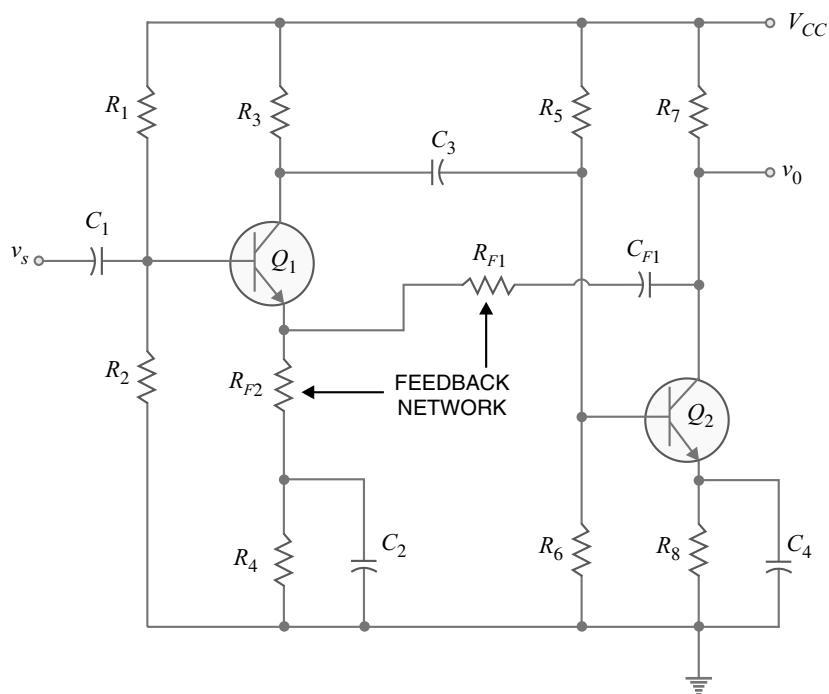

Fig. 11.18
Fig. 11.18 shows two-stage CE amplifier with negative voltage feedback. The feedback path is from the collector of transistor  $Q_2$  to the emitter circuit of transistor  $Q_1$  through the components  $C_{F1}$ ,  $R_{F1}$  and  $R_{F2}$ . Here, resistors  $R_{F1}$  and  $R_{F2}$  form the *feedback circuit* because  $C_{F1}$  behaves as a short for a.c. The capacitor  $C_{F1}$  is a d.c. blocking capacitor and prevents the d.c. voltage at the collector of  $Q_2$  from affecting the bias conditions of  $Q_1$ .
**Example 11.18.** For the two-stage negative voltage feedback amplifier circuit shown in Fig. 11.18 above,  $R_{F1} = 16.2 \text{ k}\Omega$ ,  $R_{F2} = 220 \Omega$ ,  $R_1 = 120 \text{ k}\Omega$ ,  $R_2 = 39 \text{ k}\Omega$ . Without the negative feedback circuit, the circuit has open-loop voltage gain of 58,000 and input impedance at the base of  $Q_1$  is  $Z_{in} = 1 \text{ k}\Omega$ . Find (i) feedback fraction (ii) voltage gain and (iii) input impedance of the circuit.